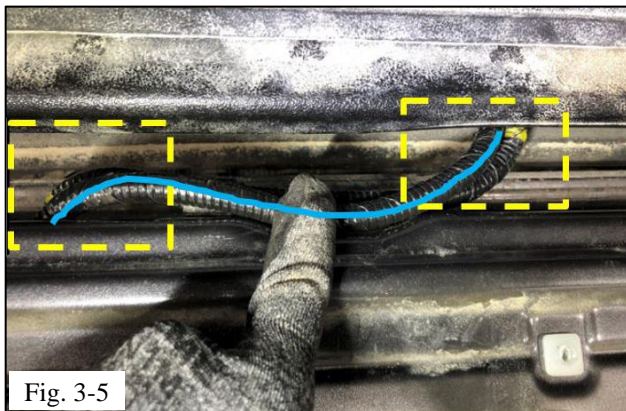

Fig. 3-5
- (e) Fig. 3-5 illustrates two sections of the tailgate wire harness that are not taped. Ensure you position the new wire protector bezels on those sections.